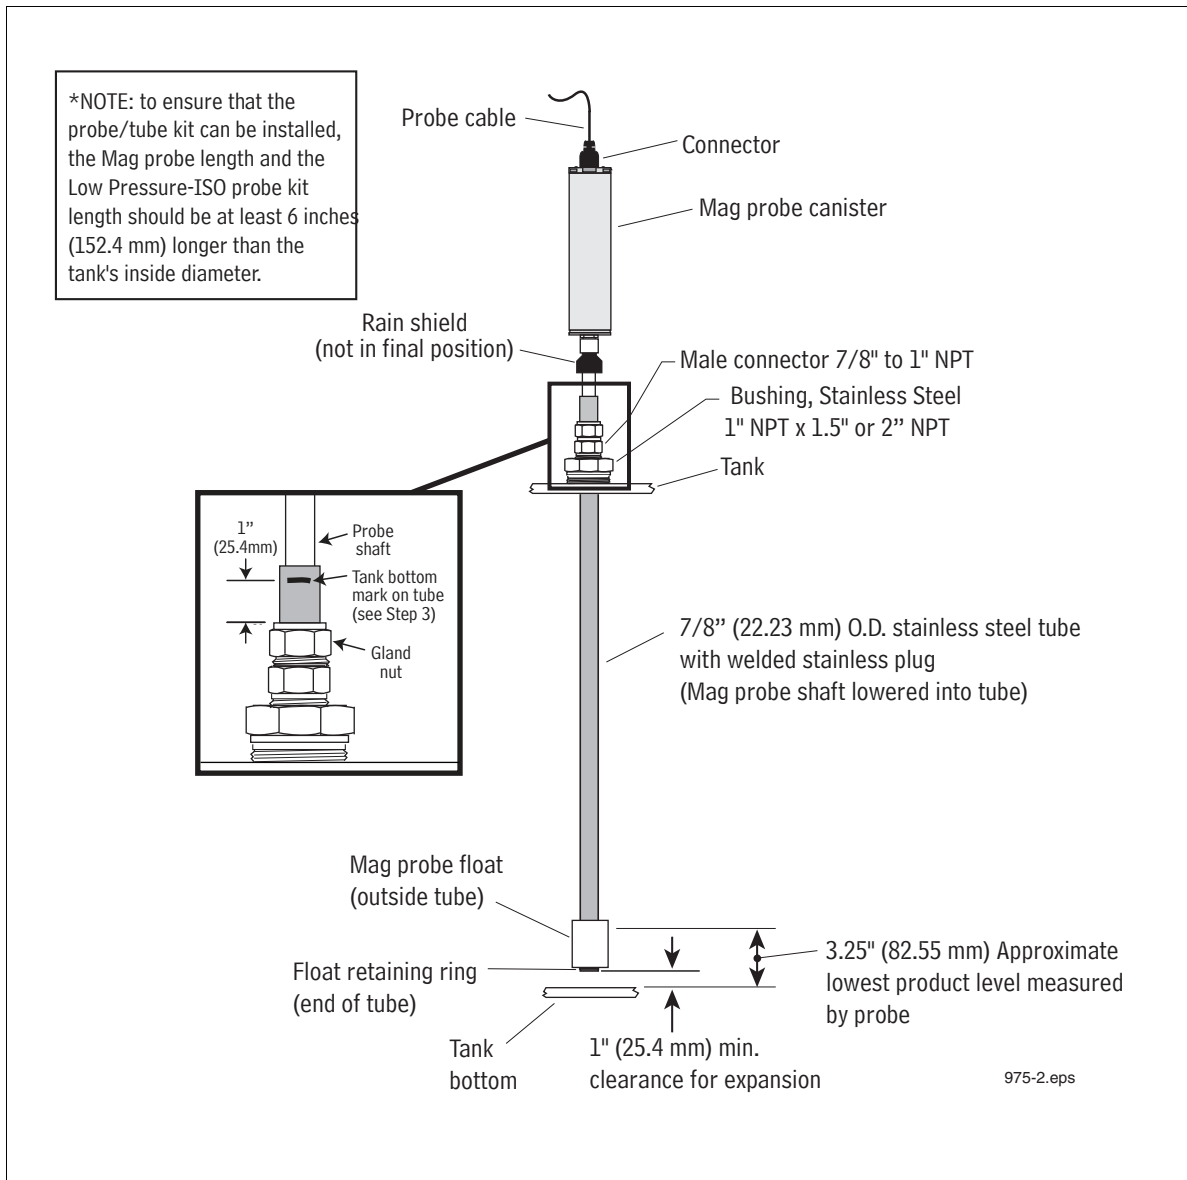

Figure 2. Media Isolated Mag Plus probe installation example
1. With the float against the retaining ring, carefully lift the open end of the tube up and lower the assembly, float end first, into the tank until the tube rests on the bottom of the tank (Figure 2). Carefully slide the stainless steel reducing bushing, large end first, down over the tube until it rests against the tank opening. Apply UL classified sealant suitable for use with the product in the tank to the outside bushing threads that will be screwed into the tank fitting. Screw the bushing into the tank fitting. Tighten the bushing as required to ensure a proper seal.
3. Push the tube down until it rests on the tank's bottom. Using a felt marker, make a mark on the tube at the top of the gland nut. Raise the tube until the mark is 1-inch (25.4 mm) above the nut, then hand tighten the gland nut until the tube is held in place (this distance is necessary for expansion and contraction of the tank). Tighten the gland nut one and one quarter full turns beyond hand tight to crimp the ferrules to the tube and create the proper seal. Note that with the bottom clearance set at 1 inch (25.4 mm), the lowest level the probe can measure in the tank is approximately 3.25 inches (82.55 mm) (see Figure 2).